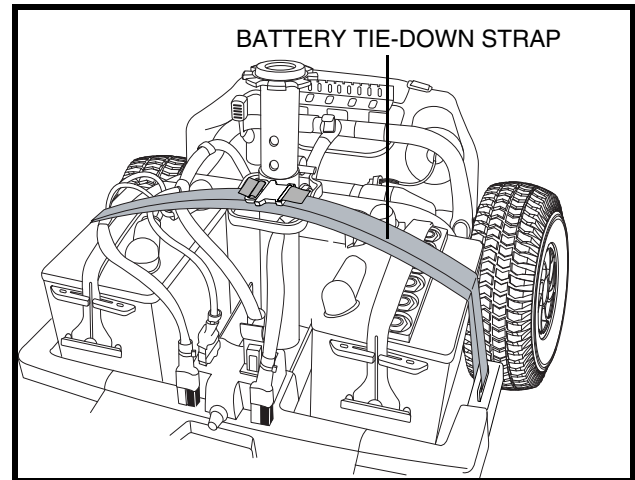

Figure 12C. Battery Tie-Down Strap
11. Reconnect the battery tie-down strap, making sure the strap is positioned over the frame release lever to ensure proper securement. See figure 12C.